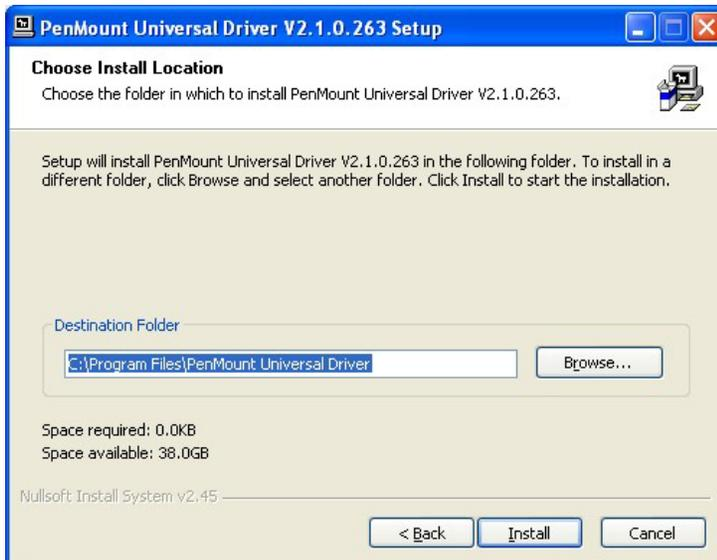

Figure 3-3: Touch Screen Driver Choose Install Location
Step 7: Browse for an install location or use the one suggested (**Figure 3-3**).